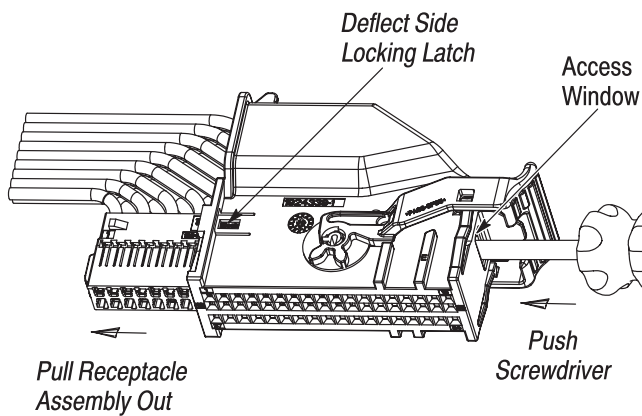

Figure 10
2. Fully deflect the side locking latch to release the locking ramp from the lock window. See Figure 10.
3. While holding the side locking latch in the deflected position, insert a small screwdriver into the access window (located at the opposite end of the shield assembly), then push it into the shield assembly until the receptacle carrier starts to exit the opening. Pull the receptacle assembly out of the shield assembly. See Figure 10.